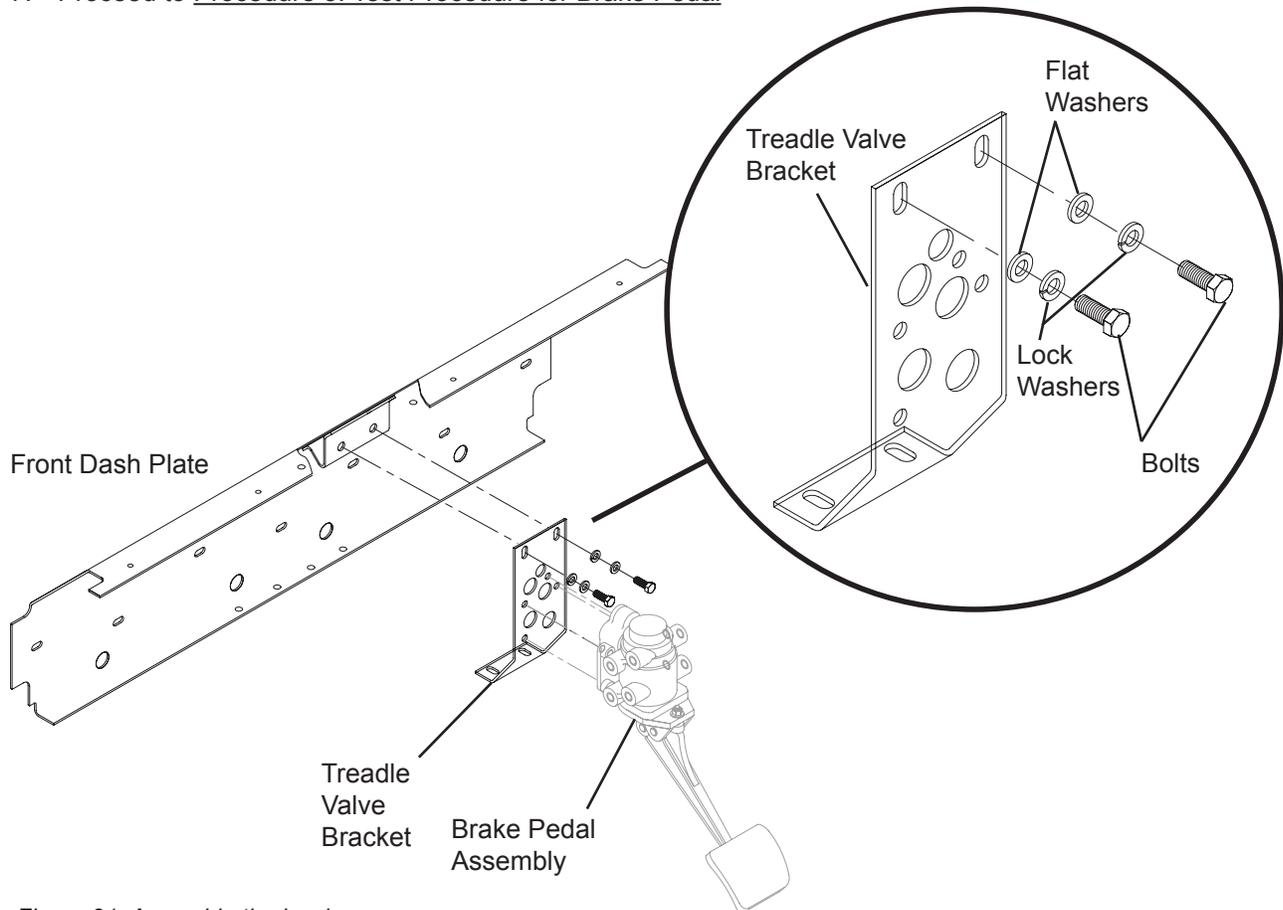

Figure 21: Assemble the hardware.
2. Thread (1) lock washer onto the bolt (P/N 351AX).
3. Thread (1) flat washer onto the bolt (P/N 362AX).
4. Insert the bolt assembly through the top of the treadle valve brake pedal bracket into the front dash plate (Figure 21).